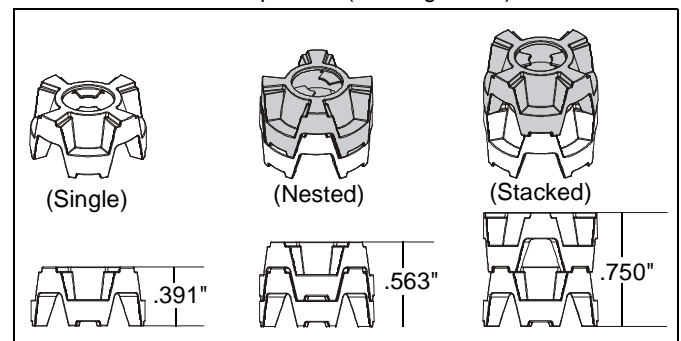

Figure 13
**NOTE:** The nesting spacers (MA) may be used separately, or put two together in different configurations to create different size spacers. (See Figure 13)